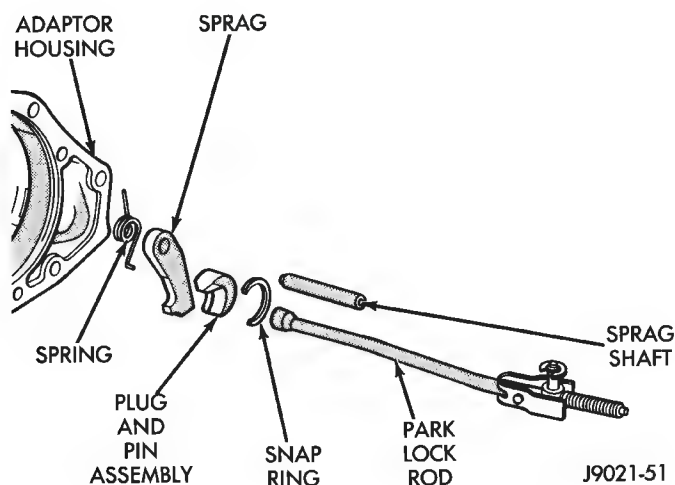

Fig. 22 Park Lock Components
(1) Raise vehicle and remove transfer case and adaptor housing from transmission.
(2) Slide sprag shaft out of adaptor housing and remove park sprag and spring (Fig. 22).
(3) Remove snap ring and slide plug and pin assembly out of housing (Fig. 22).
(4) If park rod must be serviced, remove valve body and remove rod.